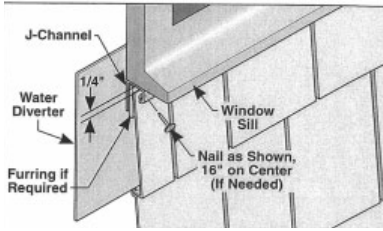

Fig. 16
- Measure and cut panels around windows, allowing $\frac{1}{4}$ " into all window channels for movement. (see Figure 16).